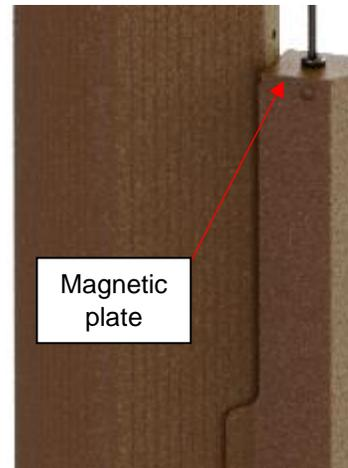
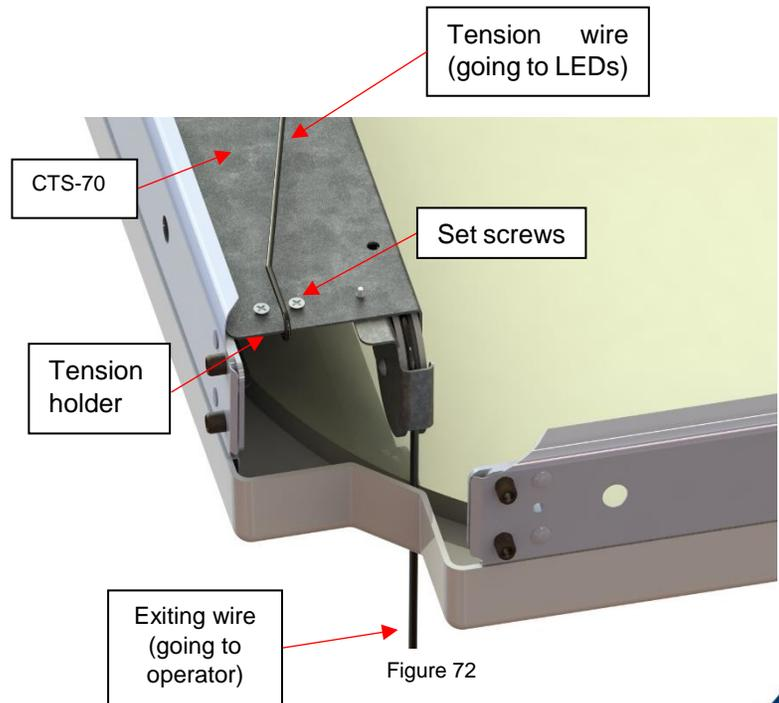

Figure 71
Figure 72
16) *If your cover is completely lowered onto the hot tub, the exiting wire (Figure 72) seems to have sufficient tension and the magnetic plate is properly positioned (Figure 71), skip to next section, Lifting mechanism assembly (continued). If not, follow next steps.*
18) Locate the set screws for the tension holder on the CTS-70 (Continuous Tension System). (Figure 72) Lightly unscrew them and pull back the tension wire until a slight resistance is felt. Once the resistance is felt, continue pulling another inch. Check the protruding wire going to the posts, and if the wire is tight enough, retighten the set screws.